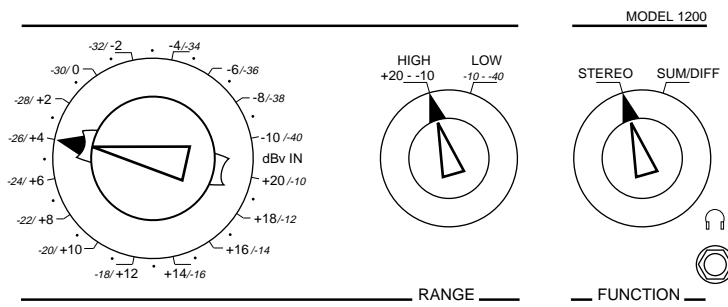

Fig. 3. Initial control settings on Model 1200.
- On the front panel, set the FUNCTION control to STEREO and position the RANGE attenuator control to +4 dB, as shown in Fig. 3. Make sure the HIGH/LOW range control is set to HIGH.